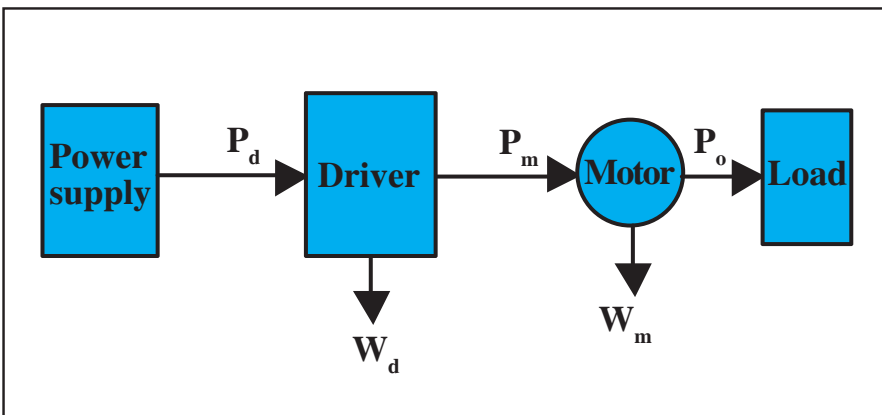

Figure 5—Configuration diagram of loss measurement.
**Separation of motor losses.** The configuration diagram of the loss measurement is shown in Figure 5. A power meter is set between the power supply and the driver, and the driver and the motor, respectively, for measuring the power and the current.